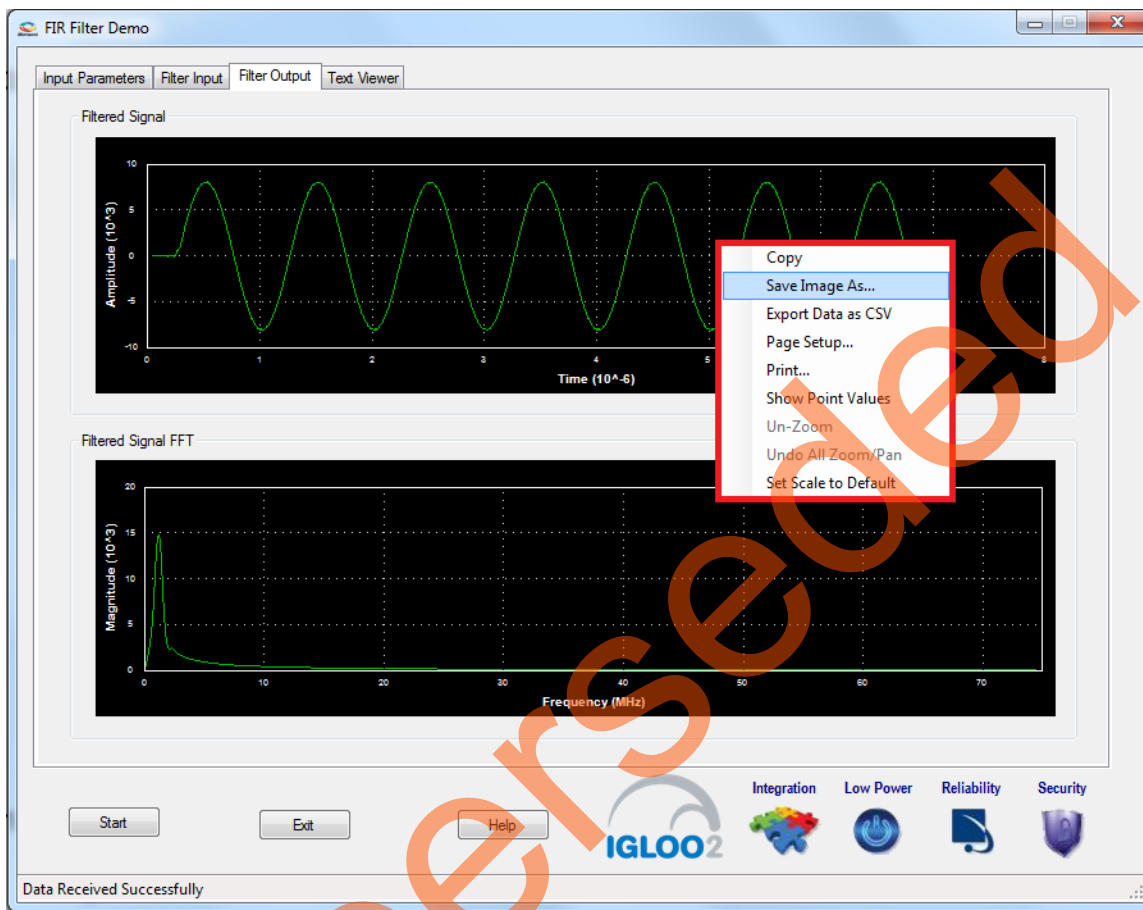

Figure 18 • Filtered Signal: GUI Options
9. Right-click on the window, it shows different options. Refer to Figure 18. The data can be copied, saved, and exported to the CSV plot for analysis purpose. Page setup, print, show point values, zoom, and set scale are set to default.